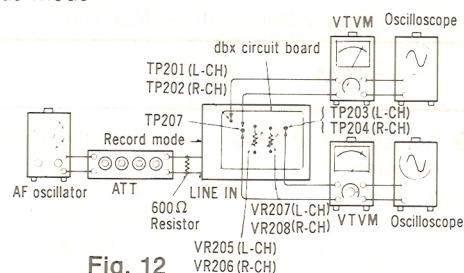

Fig. 12
<p>* Noise reduction selector ... disc/dbx tape</p> <p>Equipment: * VTVM      * AF oscillator * ATT      * Oscilloscope * Resistor (600Ω)</p>	<p>③-1 Standard level adjustment in dbx Encode mode</p> <ol style="list-style-type: none"> <li>1. Make the connection as shown in fig. 12 and apply 1kHz – 27dB signal from LINE IN, and set the noise reduction selector to dbx tape position.</li> <li>2. Set unit to record mode, adjust ATT so that the signal level at TP201 (L-CH) and TP202 (R-CH) is 300mV.</li> <li>3. Adjust VR205 (L-CH) and VR206 (R-CH) so that the output signal level at TP203 (L-CH) and TP204 (R-CH) becomes <math>300\text{mV} \pm 0.5\text{dB}</math>.</li> </ol> <p>③-2 Standard level adjustment in dbx Decode mode</p> <ol style="list-style-type: none"> <li>1. Make the connection as shown in fig. 12 and apply 1kHz – 27dB signal from LINE IN, and perform the following adjustments.</li> <li>2. Set the noise reduction selector to disc position, and adjust ATT so that the signal level at TP201 (L-CH) and TP202 (R-CH) becomes 300mV.</li> <li>3. Adjust VR207 (L-CH) and VR208 (R-CH) so that the output signal level at TP203 (L-CH) and TP204 (R-CH) becomes <math>300\text{mV} \pm 0.5\text{dB}</math>.</li> </ol> <p>NOTES:</p> <ul style="list-style-type: none"> <li>• After adjustments ①, ② and ③, re-check according to "dbx SYSTEM CHECKING METHOD".</li> <li>• If the specifications are not satisfied, perform the adjustments again.</li> </ul>